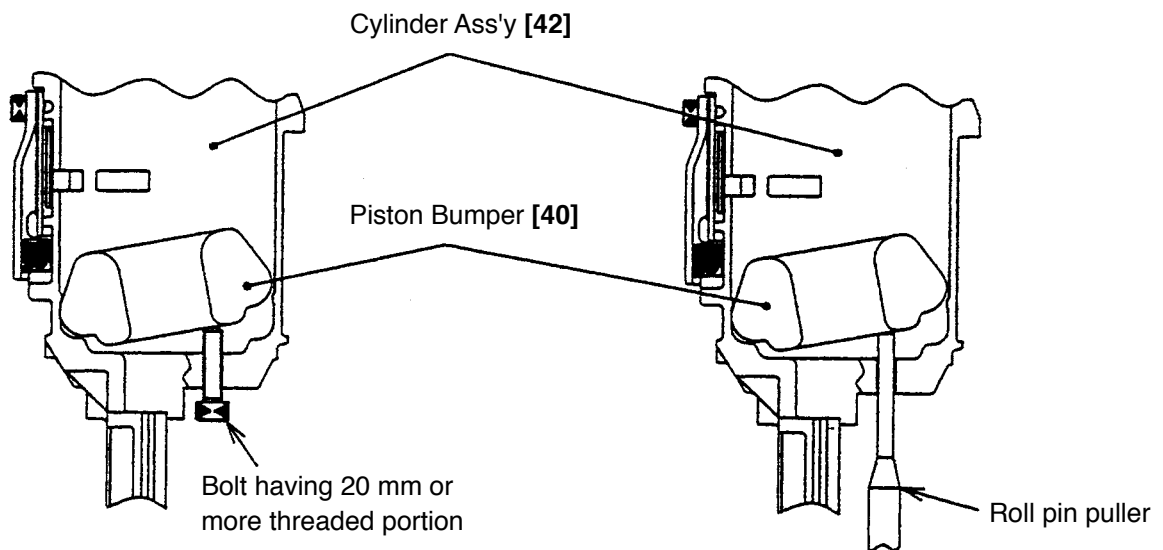

Fig. 36
- Screw a bolt having 20 mm or more threaded portion (for example, Hex. Socket Hd. Bolt M5 x 20 [13]) in the hole beside the outlet of the cylinder or insert a roll pin puller in the hole and tap it lightly with a hammer to remove the Piston Bumper [40] (Fig. 36).